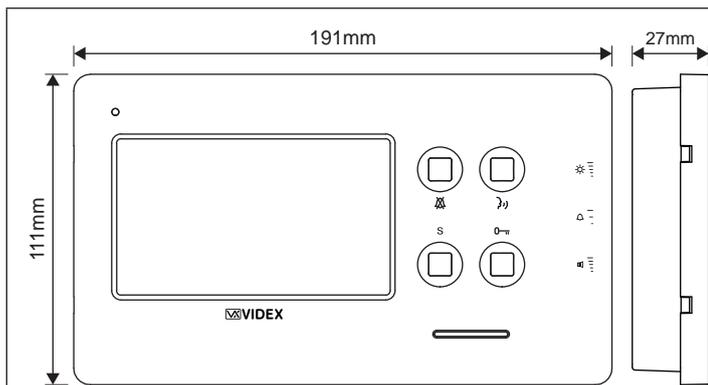

Fig. 1
- In order to install the videophone, it is necessary to remove the cover, which contains all the electronics, from the base: insert a 5.5mm flat screw driver into the clip (A) then rotate clockwise until you listen a "CLICK!". Repeat the same operation with the other clip as shown in **Fig. 1**.